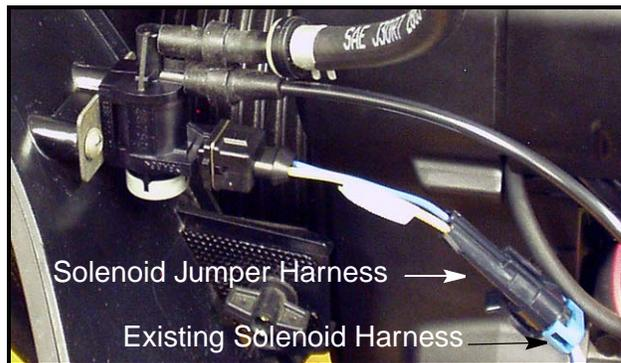

FIGURE 3
- Connect the oval style connector of the existing solenoid harness to the jumper harness supplied in this kit. See Figure 3.